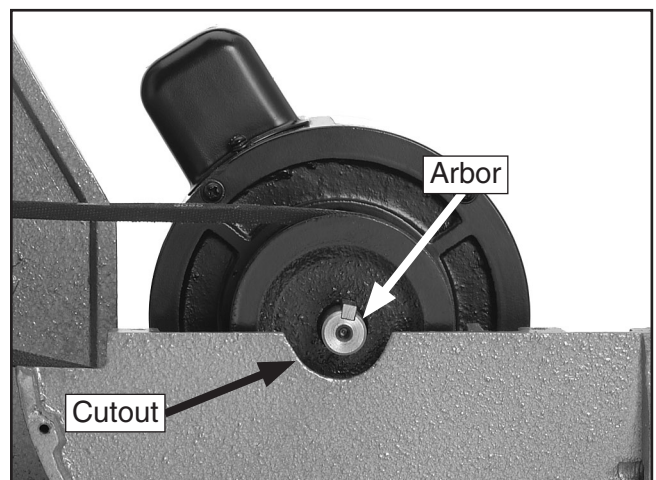

Figure 9. Motor arbor centered.
4. Center the motor arbor in the cutout of the cast iron disc guard (see **Figure 9**), then re-tighten the motor mount hex bolts.